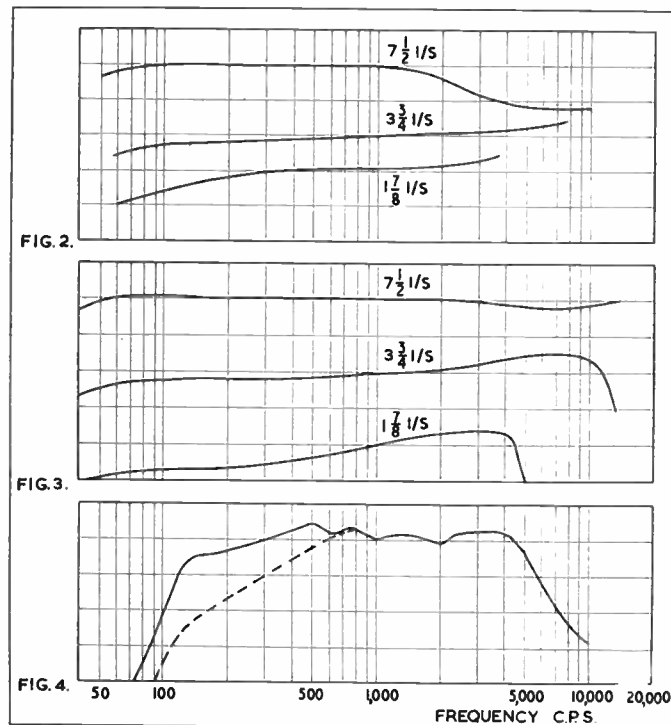

Fig. 2 Play only response. Fig. 3 Overall record/replay response. Fig. 4 Acoustic response.
**Replay only responses:** The test tape play only responses are shown in fig. 2. The  $7\frac{1}{2}$  i/s curve indicates that the playback equalisation is matched to a 50 microsecond characteristic which corresponds to the N.A.R.T.B. curve for this speed. A pre-recorded C.C.I.R. tape would need some top lift to bring it level, but the machine can be supplied with a 100 microsecond characteristic if desired. The two lower speeds are equalised very closely to the specified 200 and 400 microsecond characteristics. The head losses are so slight that both gap and eddy current losses are compensated by tuning the head to resonance at the top of each frequency range, so that a simple RC series network from plate to earth of the first valve provides the necessary equalisation at each speed.
**Play only responses:** Fig. 2 shows the playback only responses of test tapes with surface induction characteristics of 35, 100, 200 and 400 microseconds, at tape speeds of 15,  $7\frac{1}{2}$ ,  $3\frac{3}{4}$  and  $1\frac{7}{8}$  i/s respectively. The dip and peak effect at low frequencies, which moves down in frequency as the tape speed is reduced, is a wavelength effect which is a function of the pole face length of the playback head. The high frequency responses are close to the recommended CCIR characteristics. These responses are from the external amplifier jack socket. It was noticed that this outlet is fairly sensitive to loading capacity; a few feet of low capacity co-ax screened lead dropped the output at 10 Kc/s by